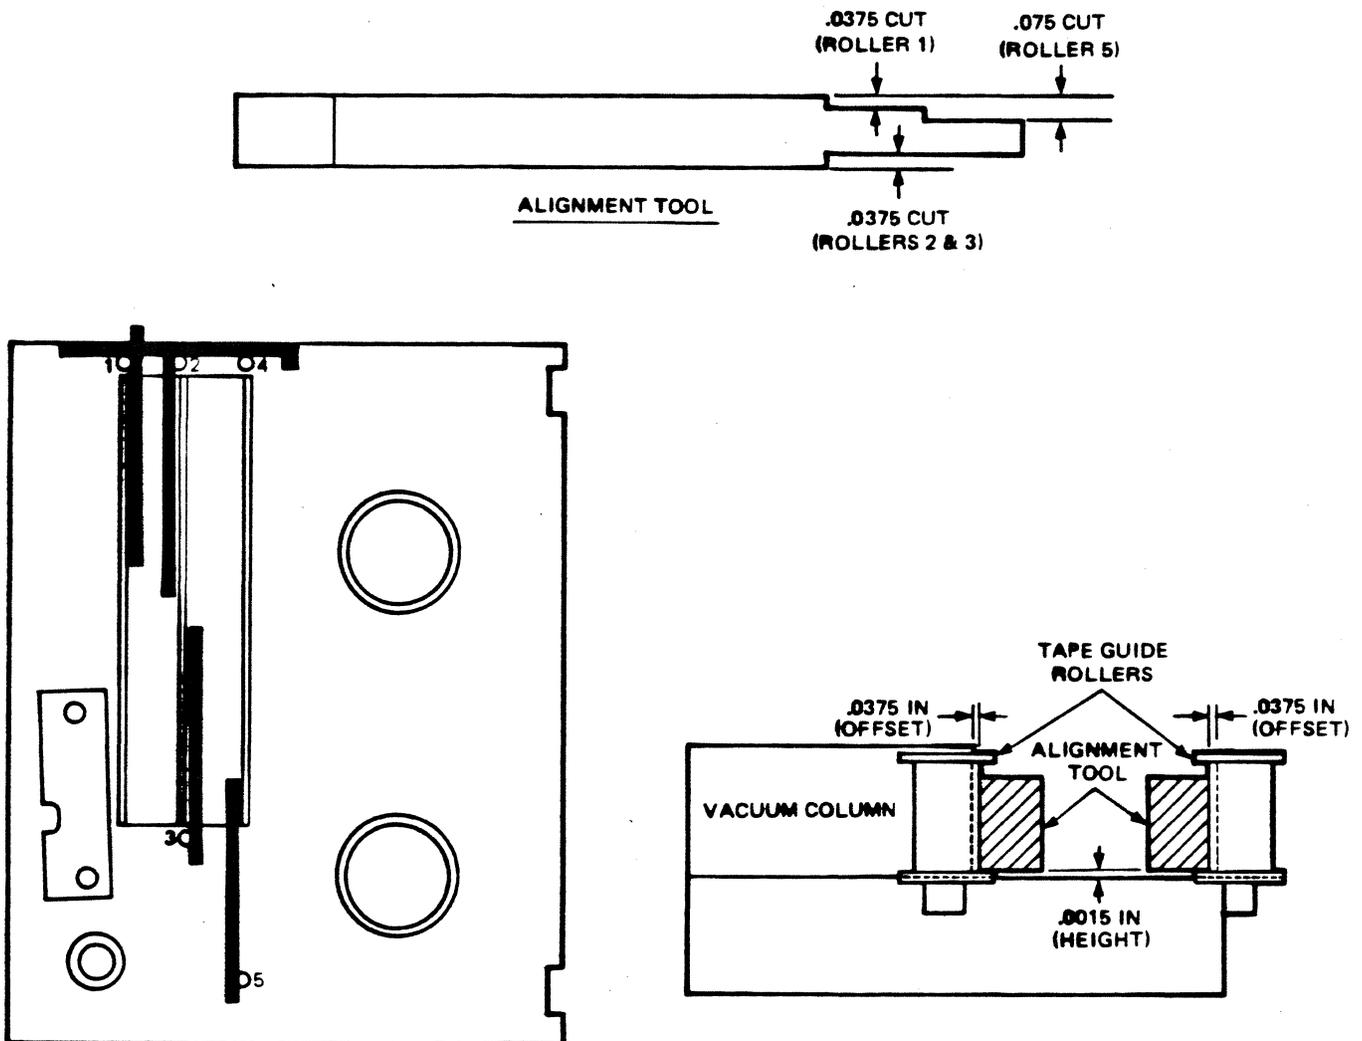

Figure 5-10. Tape Roller Height and Offset Adjustment
In figure 5-10, the top view of the door shows the five positions of the alignment tool for adjusting each roller, identified by number. The close-up view shows the two positions of the tool for aligning rollers 2 (left) and 1, looking into the end of the vacuum columns. The alignment tool illustrations show the different tool cuts used for the roller offset measurements.
- e. Position alignment tool for roller 1. Make sure proper cut is selected for checking offset, as shown in figure 5-10. If offset is incorrect, adjust as follows:
- g. With tool in same position, check roller height. As shown in close view (figure 5-10), bottom flange of roller should meet undercut of tool, which corresponds to .0015-inch height from chamber surface. To adjust height, loosen set screw in the side of the block.